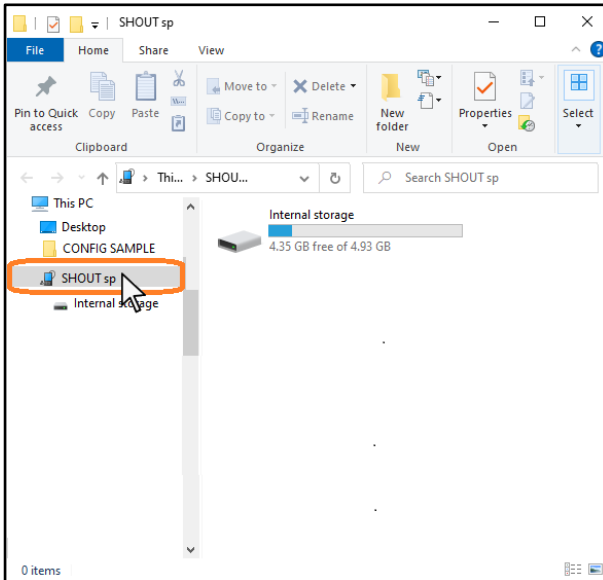

Figure 85: SHOUT sp Icon
11. From within Windows Explorer, navigate to and double click the **SHOUT sp** icon (see **Figure 85**).